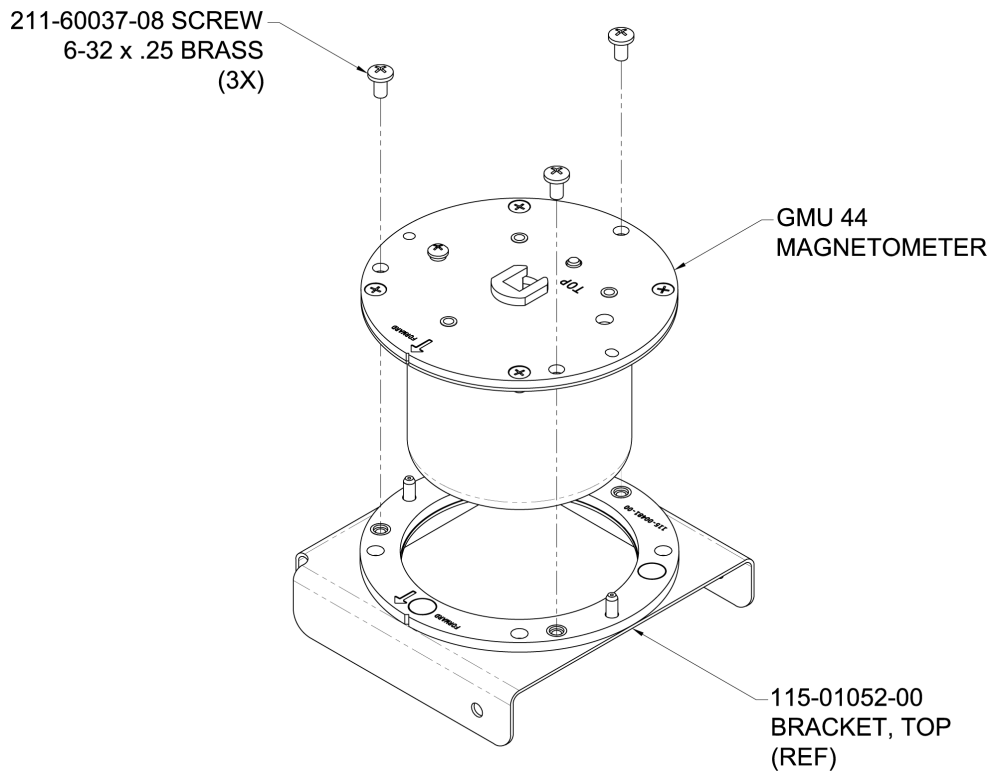

Figure A-5 Lancair IV/IV-P GMU 2222 Mounting Bracket
2. Attach the GMU 22 to the Top Bracket Assembly (115-01052-00) using screws (211-60037-08) as shown in Figure A-5.